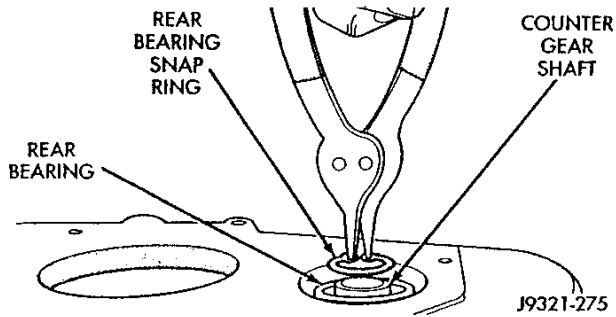

Fig. 11 Removing Counter Gear Shaft Front Bearing Snap Ring
(4) Remove small snap ring retaining rear bearing on counter gear shaft (Fig. 11).